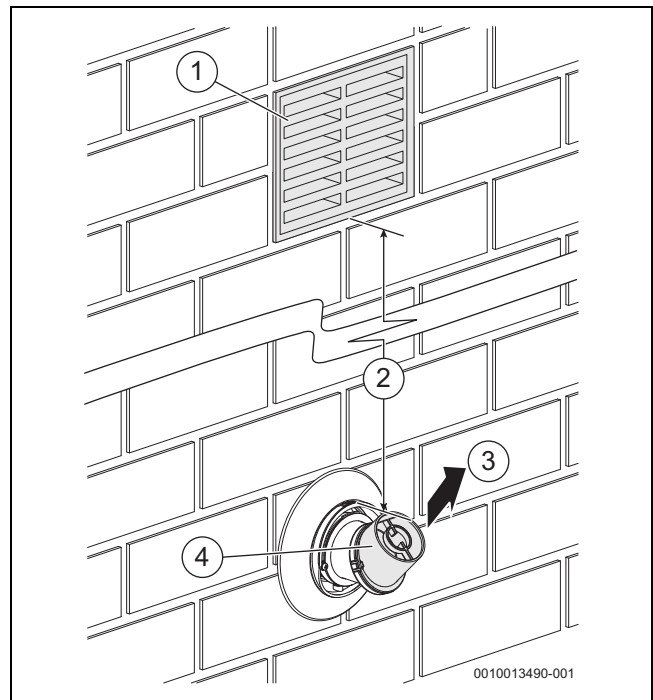

Fig. 29 Plume redirect distance to opening
- ▶ The flue terminal outlet position must follow those shown in figure 29.